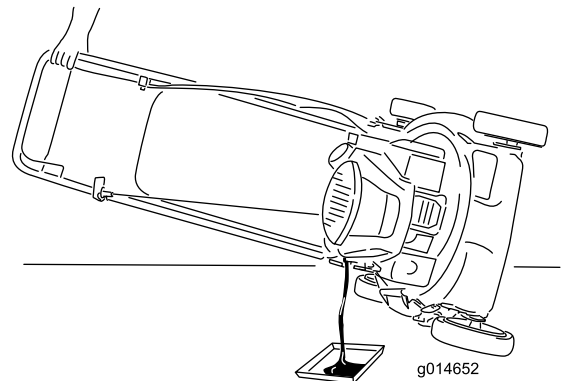

Figure 20
3. Tip the mower onto its side, with the air filter up, to drain the used oil out through the oil fill tube (Figure 20).